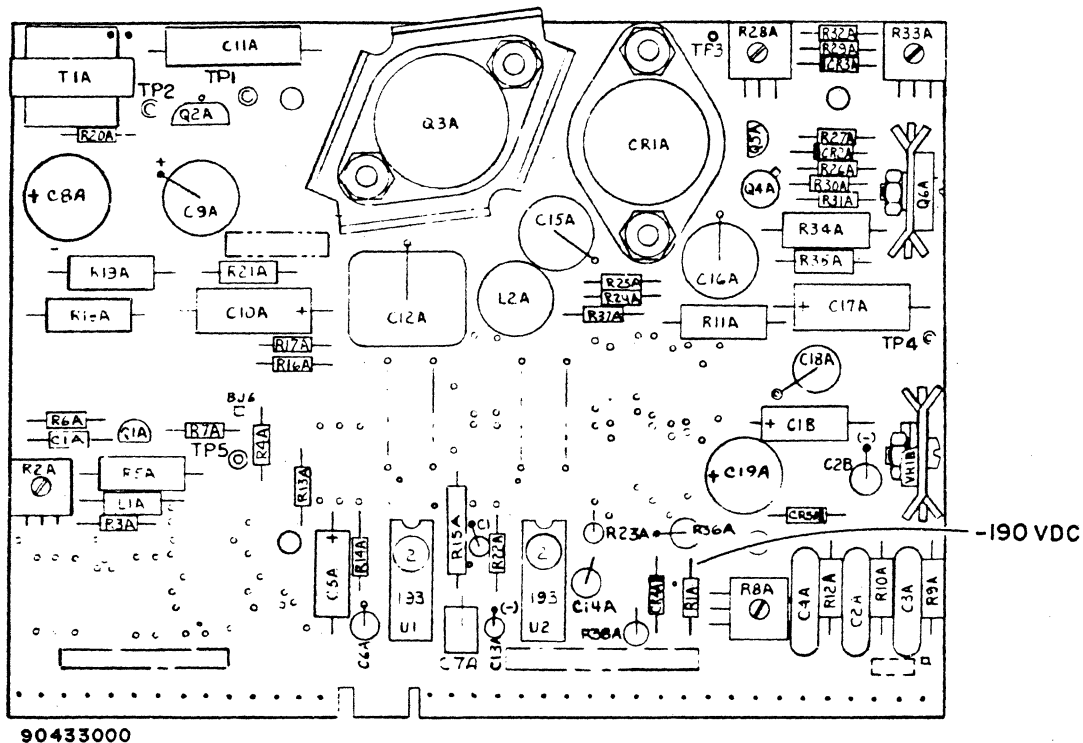

Figure CRT30. Test Point for -190 VDC
- 10) Connect negative (-) lead to R1A (figure CRT30).